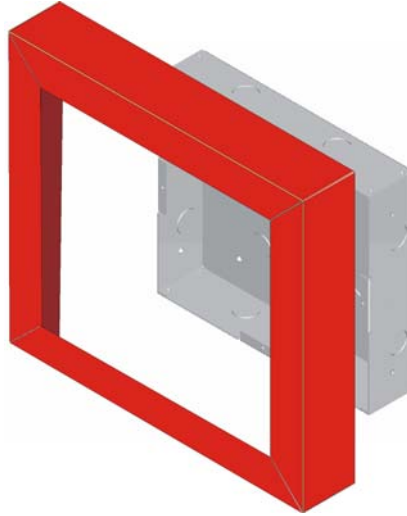

Figure 4.26 Installing Trim Ring
4. Place the trim ring over the back box as shown in Figure 4.26.